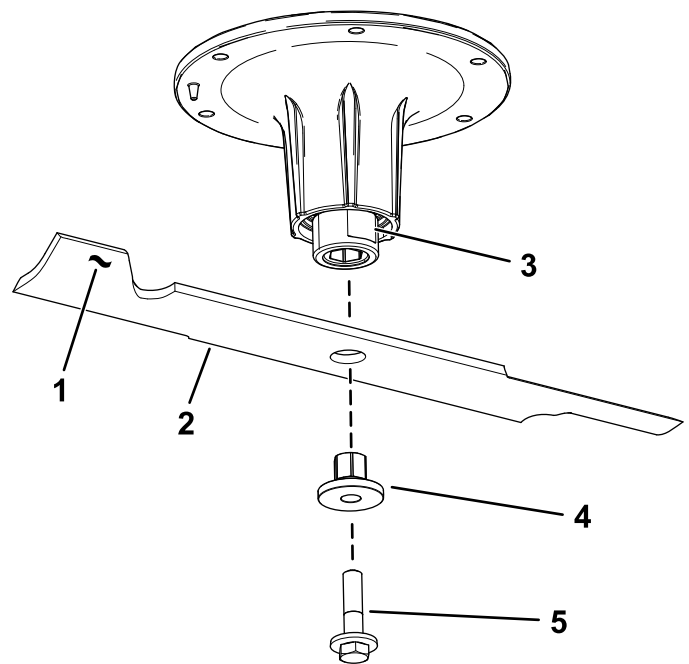

Figure 3
2. Remove the blade bolt, bushing, and blade from the spindle shaft (Figure 3).